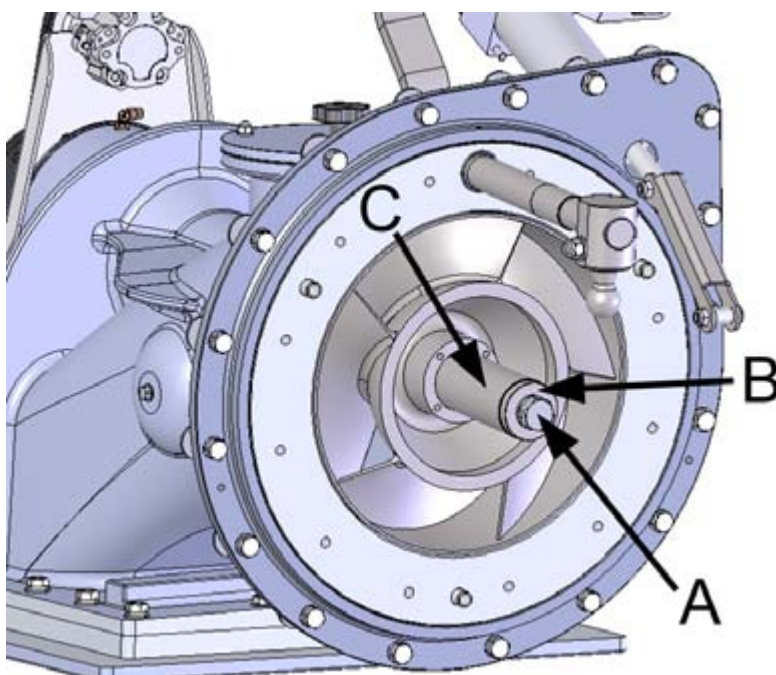

Figure 26. Removing the sleeve and the spacer
1. Unscrew the screw located at the end of the shaft (figure 26, point A) and pull out the spacer (figure 26, point B) and the sleeve (figure 26, point C).